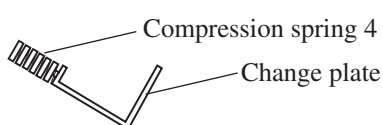

Fig.22A
1. Set compression spring 4 to change plate as illustrated in Fig.22A.